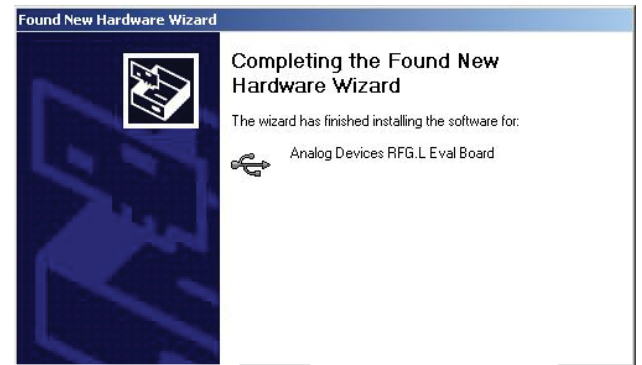
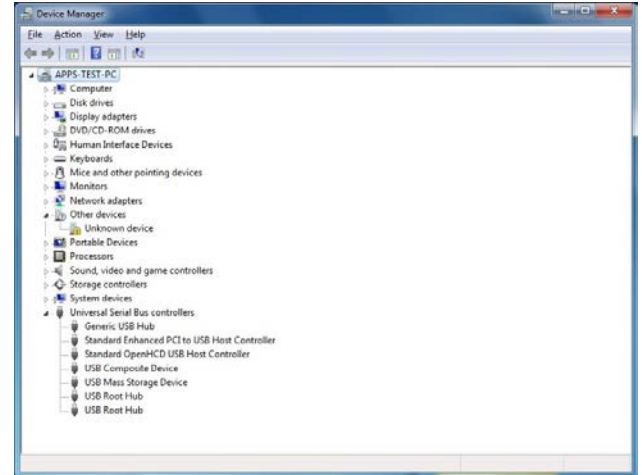

Figure 6. Successful Installation
Figure 7. Device Manager
| Added Figure 5, Figure 6, and Figure 7; RenumberedSequentially .....   | 5 |
4. If the installation is successful, the message in Figure 6 appears.
1. Find the new unknown device (the evaluation board) in **Device Manager** and double-click it to open the properties. The device should be **Unknown device**, under **Other devices** (see Figure 7).